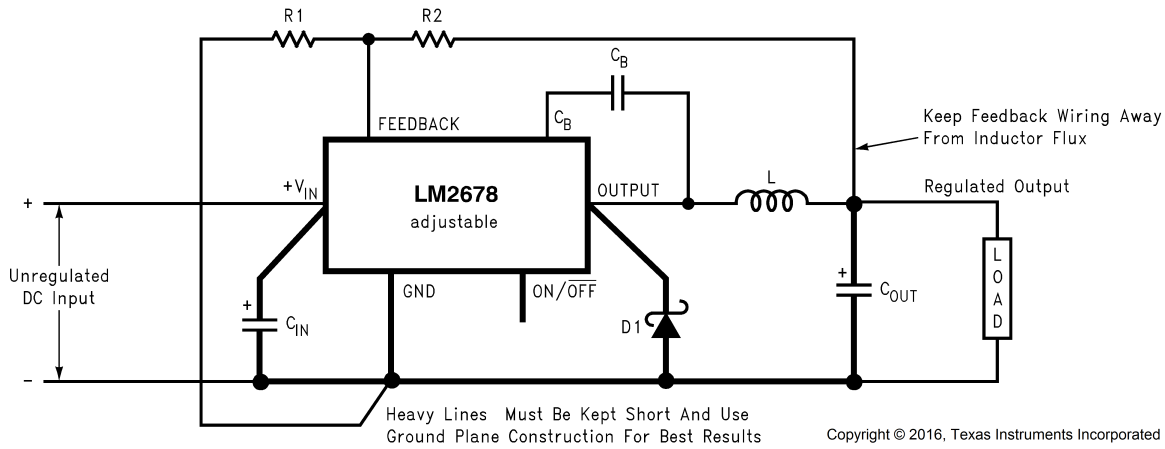

Figure 22. Basic Circuit for Adjustable Output Voltage Applications
Step 2: Select an LM2678S-ADJ. To set the output voltage to 14.9-V two resistors need to be chosen ( $R_1$  and  $R_2$  in Figure 22). For the adjustable device the output voltage is set by Equation 1.